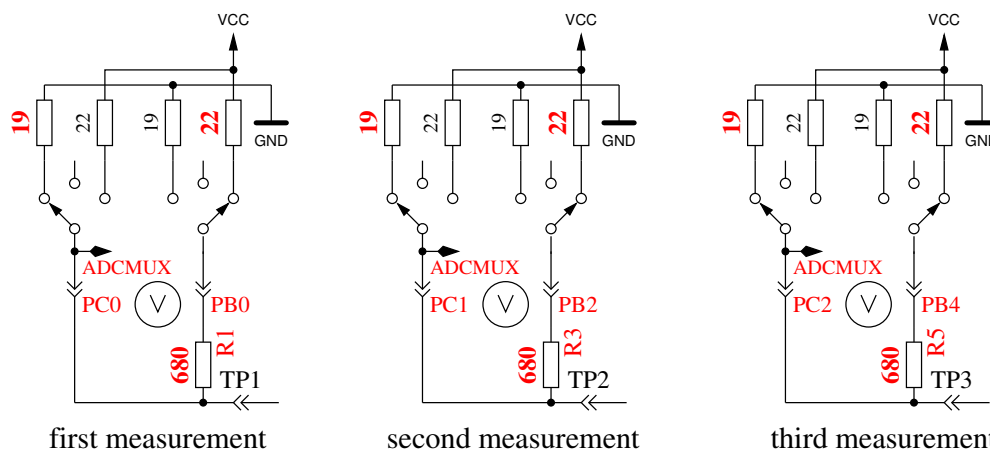

Figure 4.24: Measurement of internal resistance of Port C switched to GND
5. This step tests the capability of GND (-) connected  $470k\Omega$  resistors (H) to pull the test pins to GND. Row 1 shows the text RH-. Row 2 should display zero for all three pins.
6. This step tests the capability of VCC (+) connected  $470k\Omega$  resistors (H) to pull the test pins to VCC (+). Row 1 shows the text RH+. The best value for this three measurements is 5001. Great differences from the best value for test 5 and 6 are errors such as isolation problem, flux material or damaged port.
7. Measuring of internal resistance of pin output switched to the GND signal. The text in the 1st LCD row is Ri.Lo = (mV). In the second row of the LCD three voltages were displayed. The internal resistance of the port C outputs switched to GND (-) are measured with the current of to VCC (+) switched  $680\Omega$  resistors, see Figure 4.24. Only the three pins of the ADC port are measured, the resistor port B (PB0, PB2 and PB4) can not be measured without hardware modification. Is is assumed that the port resistance of the different ports are nearly identical. To get the resistor values, you must divide the displayed mV values by about 7 (see test 8).